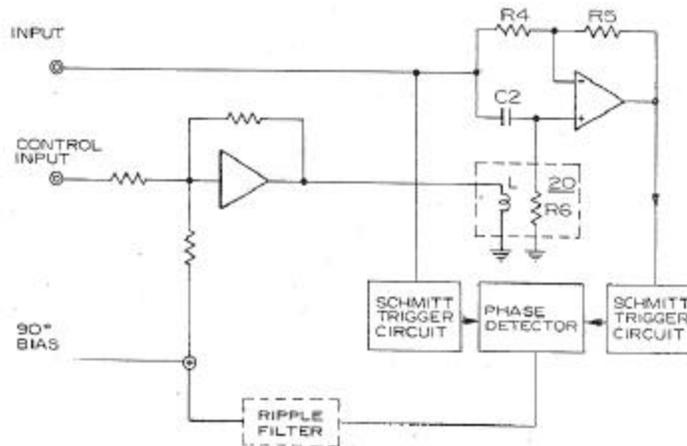

FIGURE 1
The Raysistor is based on the principle of electromagnetic radiation in the form of light acting on a photo resistive element to provide a control function. In the application shown, the Raysistor (item 20 in Figure 1 below) is used as a phase modulator operating as a frequency modulator that is controlled electronically. The Raysistor, being light sensitive, is compared to the "mind control unit's" electromagnetic output. A high-gain feedback loop suppresses those frequencies that would result in disorientation by creating an error voltage that drives the Raysistor's output in a direction that will null the undesired frequencies. The input is connected to a thin, metallic covering that was worn under the CIA agent's suit.